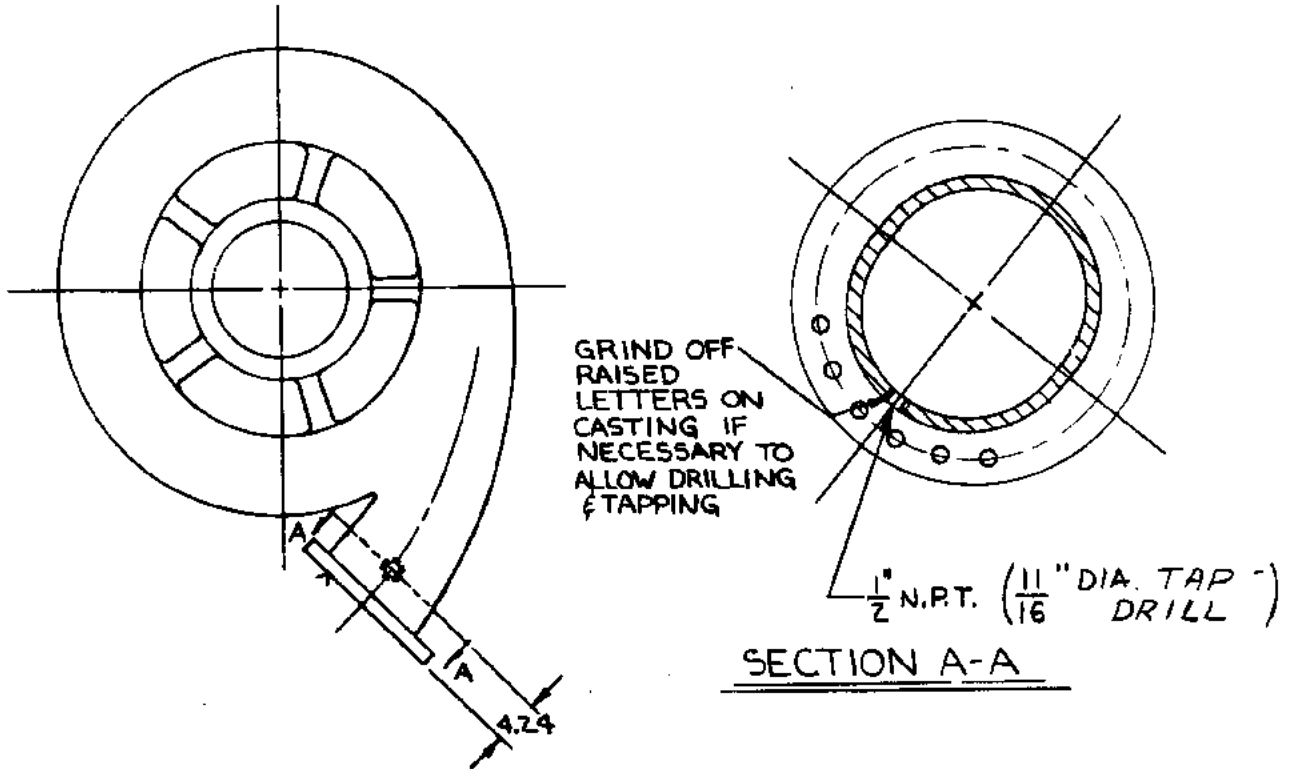

Figure 1
- 5.1 Locate, drill and tap a 1/2 N.P.T. hole in the side of the volute as shown in Figure 1.